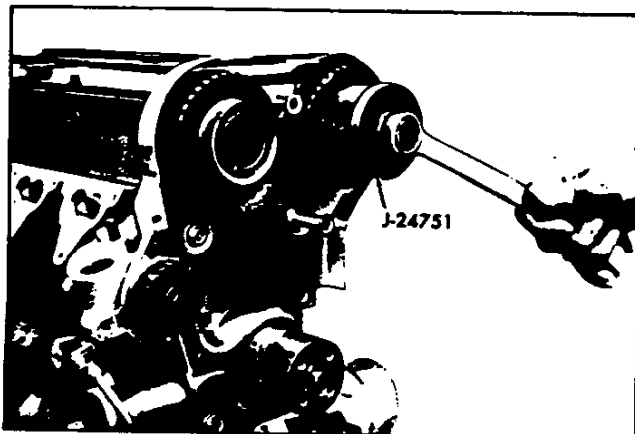

Fig. 15—Rotating Camshaft with J-24751
5. Rotate camshafts to a position that will expose the holes in the tapped body wall (fig. 15).